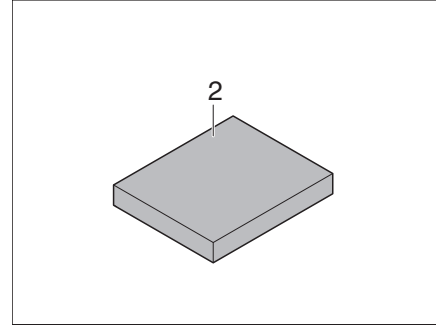

Fig. 188 Additional cushion
- Lay the additional cushion (Fig. 188,2) in the middle on the table.